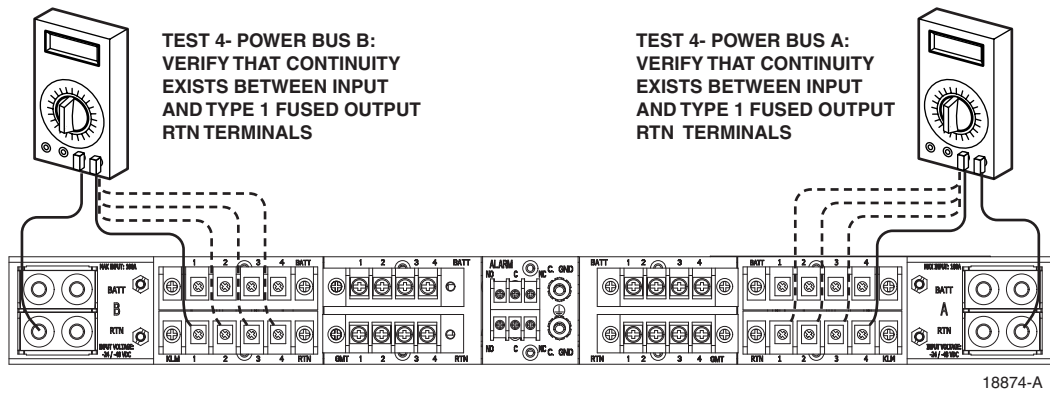
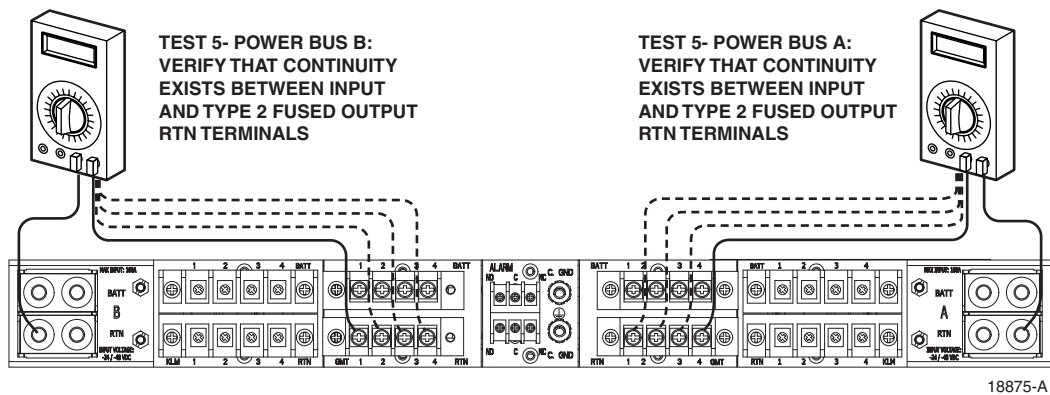

Figure 10. Test 3: Input Return to Fused Output Return (Type 1 Fuse)
Figure 11. Test 3: Input Return to Fused Output Return, (Type 2 Fuse)
**Test 3: Input Return to Output Return**—Do the following test for each input power position and fuse type (refer to Figure 10 and Figure 11).